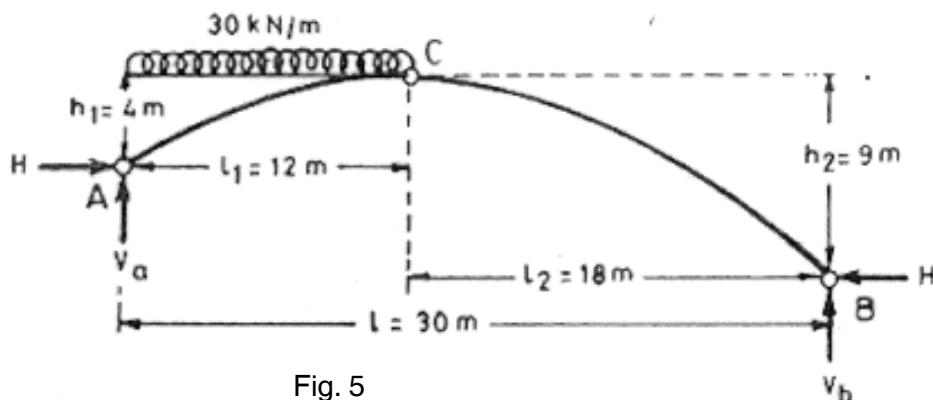

Fig. 5
5. A three-hinged parabolic arch ABC of span 30 m has its support A and B at different levels, A being at a higher level than B. The support A is 4 m below the crown hinge C and 12 m horizontally from A. The arch carries a uniformly distributed load of 30 kN/m from A to C determine the horizontal thrust and the vertical reactal reactions at the support. Find also the maximum bending moment for the arch. Refer Fig. 5